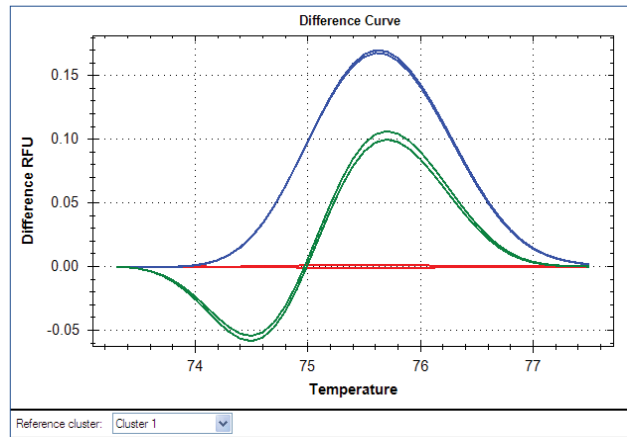

Fig. 8. Difference Curve pane.
3. For easy visual identification of clusters, Precision Melt Analysis Software generates a difference curve for each well (Figure 8). The Difference Curve chart shows the difference in fluorescence between a well and that of a reference curve.